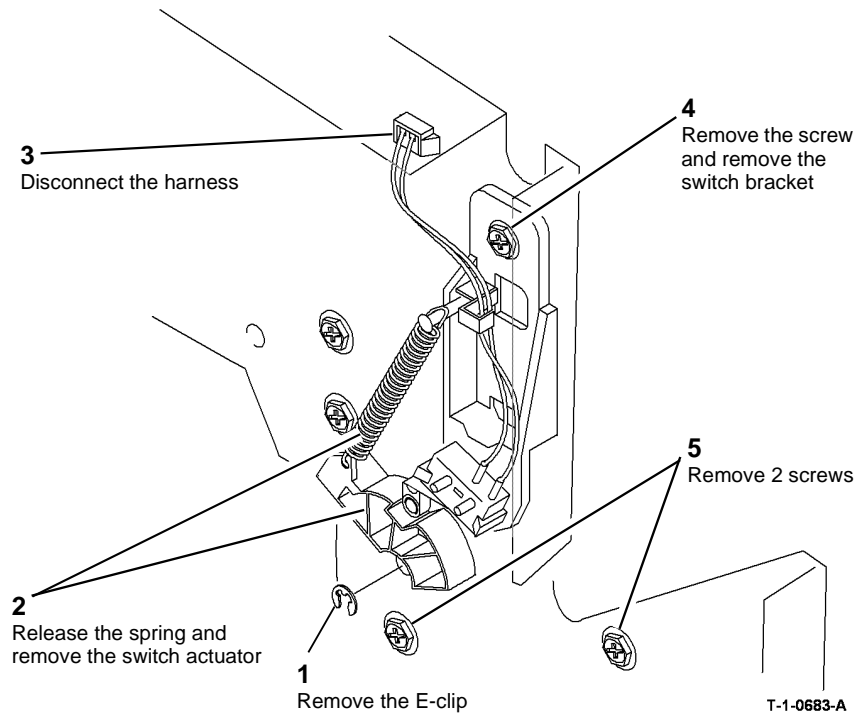

Figure 3 Front preparation
6. Prepare the front components, Figure 3.
1. Install the paddle wheel shaft, ensure that the pin on the rear of the safety gate switch cam, Figure 3, locates in the safety gate. Install the front E-clip.
4. Install the switch bracket, 1 screw, connect the harness, Figure 3.